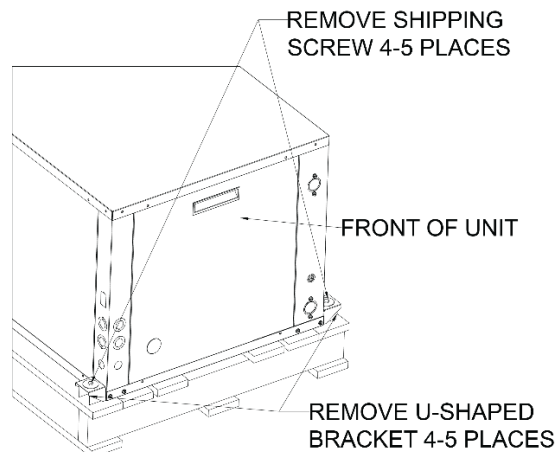
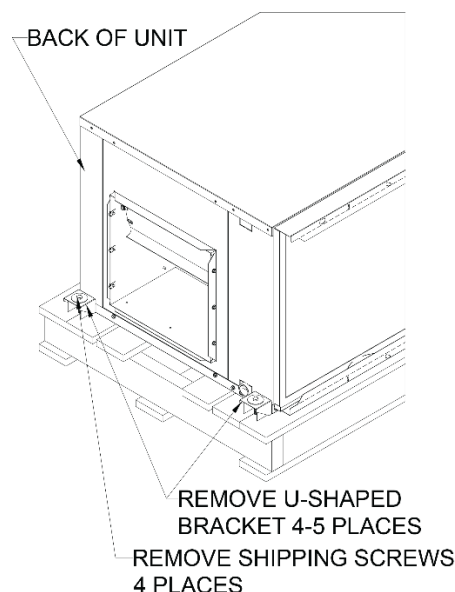

FIGURE 3 – Standard Packaging with Brackets – Front View
FIGURE 4 – Standard Packaging with Brackets – Back View
- 9) Ensure that the shipping screws and shipping brackets are removed from the unit. Refer to **FIGURE 3 – Standard Packaging with Brackets – Front View** & **FIGURE 4 – Standard Packaging with Brackets – Back View** for more information.